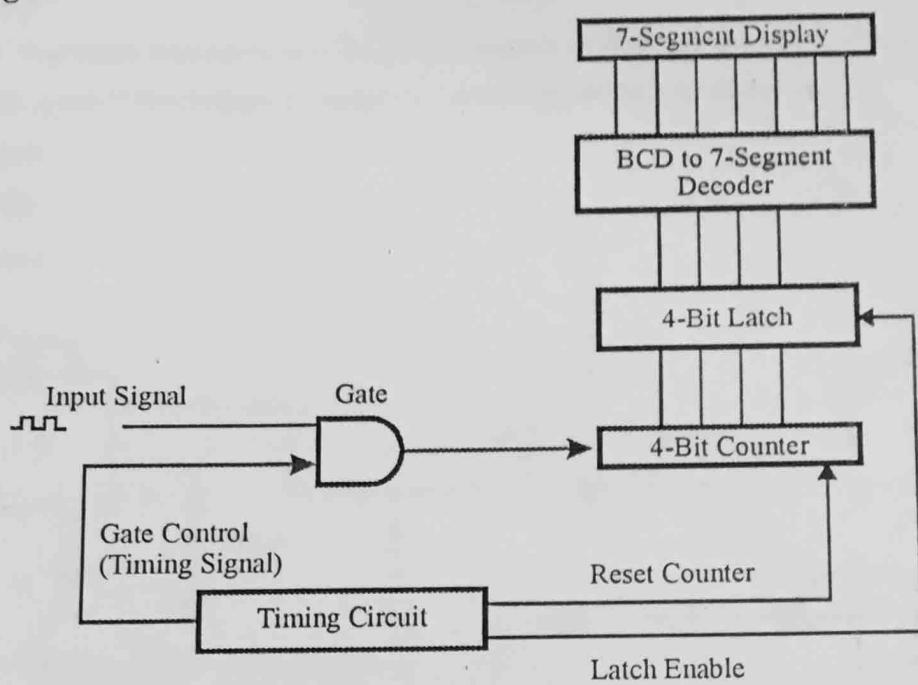

Figure 1
**Frequency Measurement:** To measure the frequency of an input signal an arrangement shown in figure 1 is used. Here the counter is clocked by 0 to 1 transition of the signal being measured. So that it counts the number of cycles of the input signal. This signal is gated by the timing pulse, which turns the gate on for an accurate time period of 1 second and closes the gate for a time period of 0.2 second. While the input gate is open, the incoming cycles of the frequency being measured are counted. At the end of the measuring period, the gate is closed and at this point the frequency of the input signal is given by the count in the counter. A short pulse is generated to transfer the count to a Latch and is displayed on the 7-segment displays. Another short pulse is generated for counter, which reset the counters so that the new count starts from zero. The Latch enable pulse and counter reset pulse are much shorter than the period of the timing clock for the counter and are generated during the time when gate is closed. The reset action must be carried out after the count has been transferred to Latch, other wise the count value would be lost by the reset action.
As shown in figure 1, the frequency counter comprises of the following subsystems.